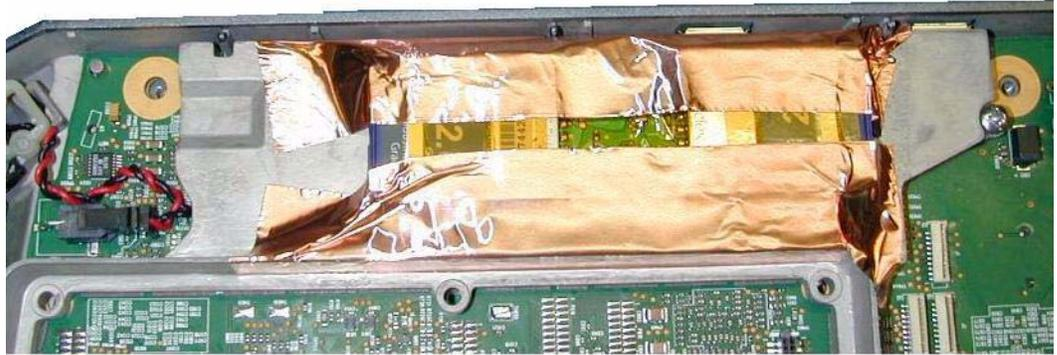

Figure 4.15 Copper Tape Installation
- 9 Install a second strip of 1" x 5" self-adhesive copper tape over the SD Card Daughter-card on the edge closest to the Power Supply frame as show in Figure 4.15.